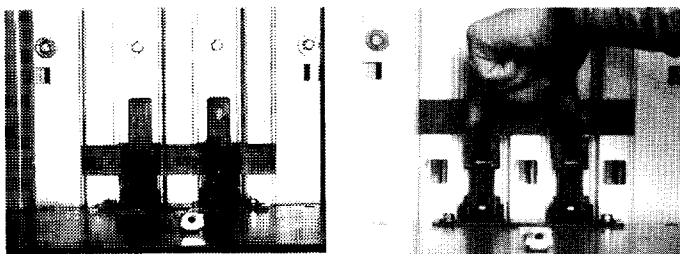

Figure 38. Optional shutter assembly.
The unit shutter slides down to cover the stab holes when the draw-out feeder or starter is removed. On racking-in a unit, the back of the unit saddle presses against point A, Figure 37, forcing cover to rise vertically exposing the stab holes in bus. To field install shutter assembly, refer to Figure 38.
1. Loosen two screws at Point B, Figure 38, to make a gap of approximately 0.125 inch (3.17 mm) between the flat washer and vertical bus insulator.
2. Insert shutter-assembly mounting tabs under screw heads (B) being certain that mounting slots have bottomed.
3. Tighten two mounting screws (B) to secure shutter assembly to structure.